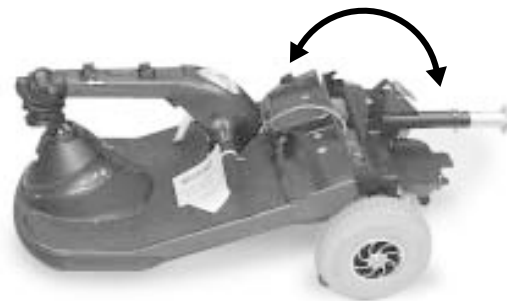

Figure 20. Frame Positioning
1. Push back on the seat post to pivot the scooter's rear section backwards until the rear section is standing vertically on its rear bumper. See figure 20.
3. Holding the seat post, slowly pivot the rear section forward until the curved locking brackets are fully connected onto the top rear pegs. See figure 20.